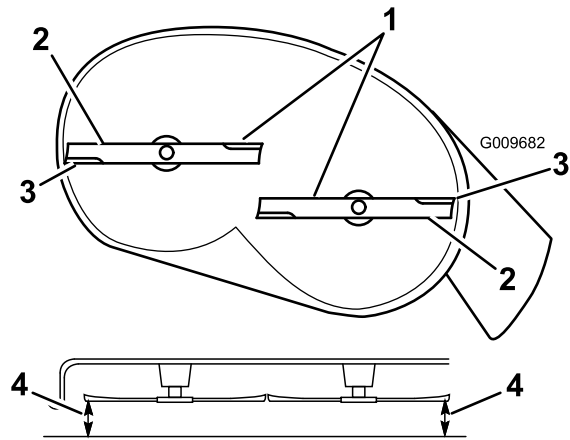
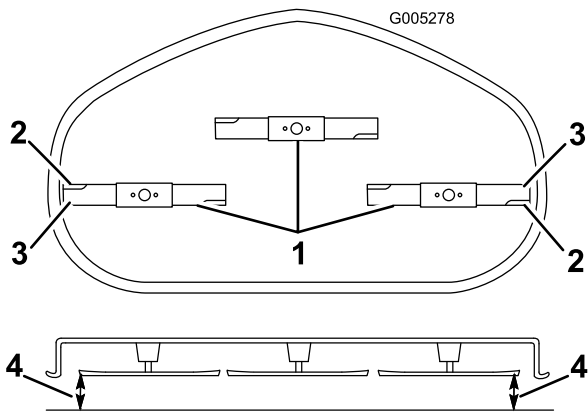

Figure 59
Figure 60
- Carefully rotate the blades so that they are all side to side (Figure 59 and Figure 60).
- Measure between the outside cutting edges and the flat surface (Figure 59 and Figure 60). If both measurements are not within 3/16 inch (5 mm), an adjustment is required; continue with this procedure.